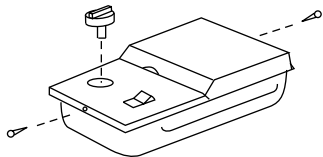

Figure 23
Make sure side burner is OFF. Remove valve control knob and screws. Remove porcelain top. Figure 23.
- Reinstall the side burner cover. Figure 23.